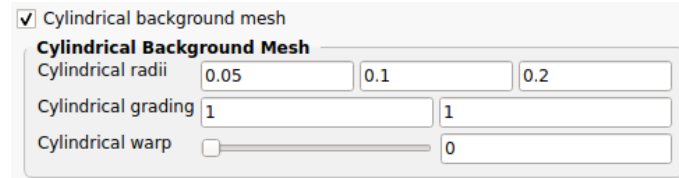

Figure 7.15: TMesh – cylindrical background mesh.
- "Cylindrical background mesh" requests the use of a cylindrical background mesh instead of the rectangular, see Figure 7.15, and enables the following parameters.